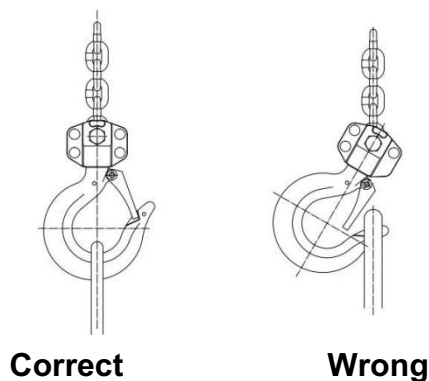

Figure 4
3. Place ropes or chain in the center of the bottom hook, making sure the safety latch is secure. Never load the hook in front of the safety latch. See Figure 4.